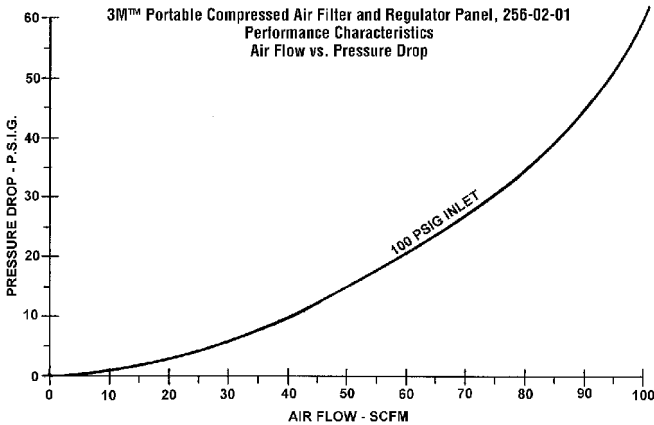

Fig. 2
The 3M filter and regulator panel is supplied with quick-disconnects at the outlet for connection of up to eight (8) supplied air respirators. The actual number of respirators that may be connected to the 3M filter and regulator panel is dependent on the inlet pressure to the panel and the airflow and pressure requirements of the respiratory protection. (Fig. 2) As the air passes through the panel there is resistance to flow called pressure drop. The more airflow through the filter and regulator panel, the greater the pressure drop. The air control devices approved for use with the 3M respirators must be operated within the supply pressure ranges and hose lengths stated in their *User Instructions*. Use Figure 2 along with information on the maximum airflow consumption, supply pressure ranges, and approved hose lengths as stated in the *User Instructions* for the 3M air control device to determine the number of respirators of a specific type that may be connected to the panel.